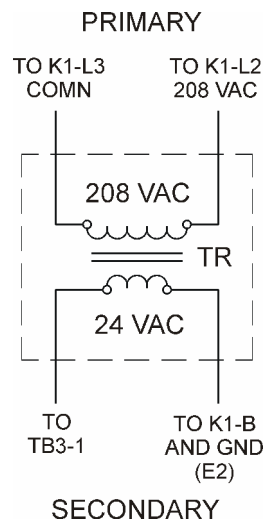

Figure 1. Transformer Continuity Check
1. Using a multimeter set on lowest OHMS scale, check for continuity across primary terminals "COMN" and "208 Vac". Continuity should be indicated. See figure 1.